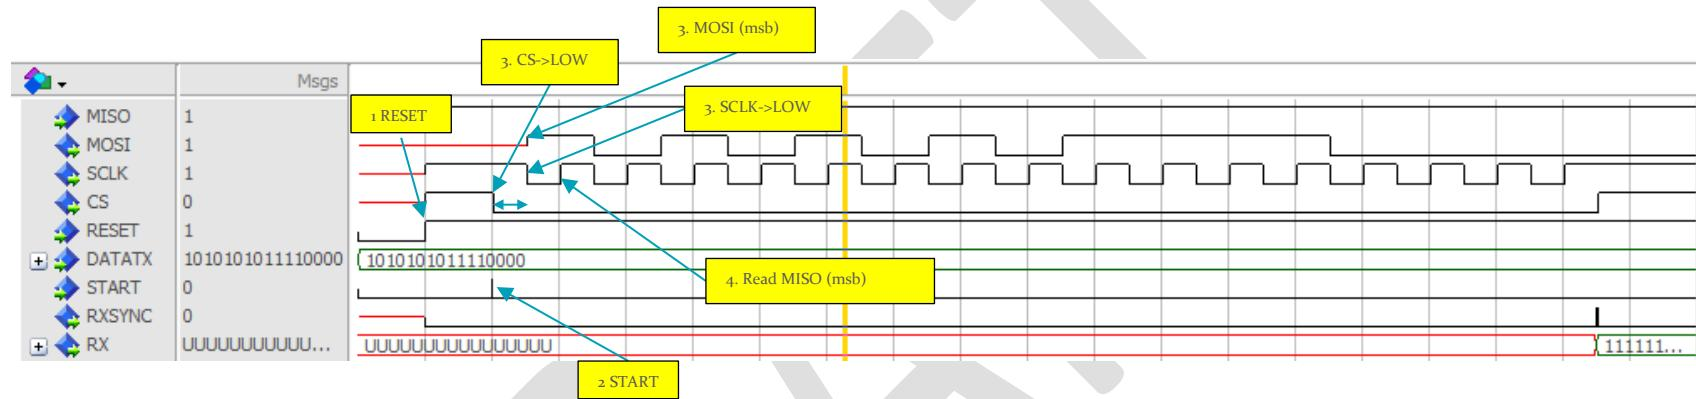

Figure 2 Showing a complete SPI transaction between the FPGA and the ADC. The FPGA is the SPI Master.
- The analogue input is PIN₂₄ of JP₃ (see Figure 2 and Figure 3)